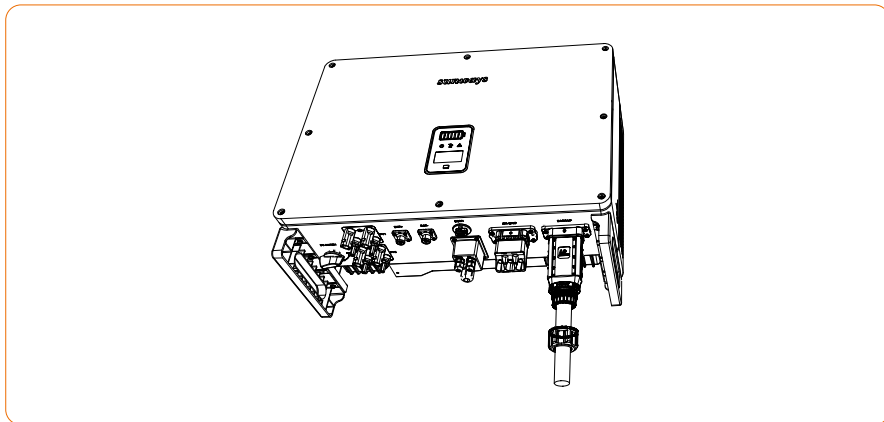

Figure 4-24
4) Insert the flat cable of the display back to its place and put back the right roof cover and lock with its original screws. As shown in Figure 4-24: